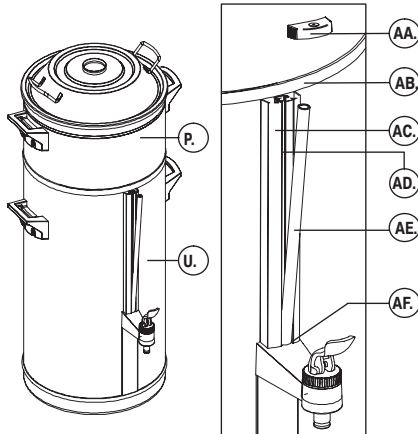

Fig. 8 Placing the sight glass cover
- Clean the gauge glass (fig.8) :